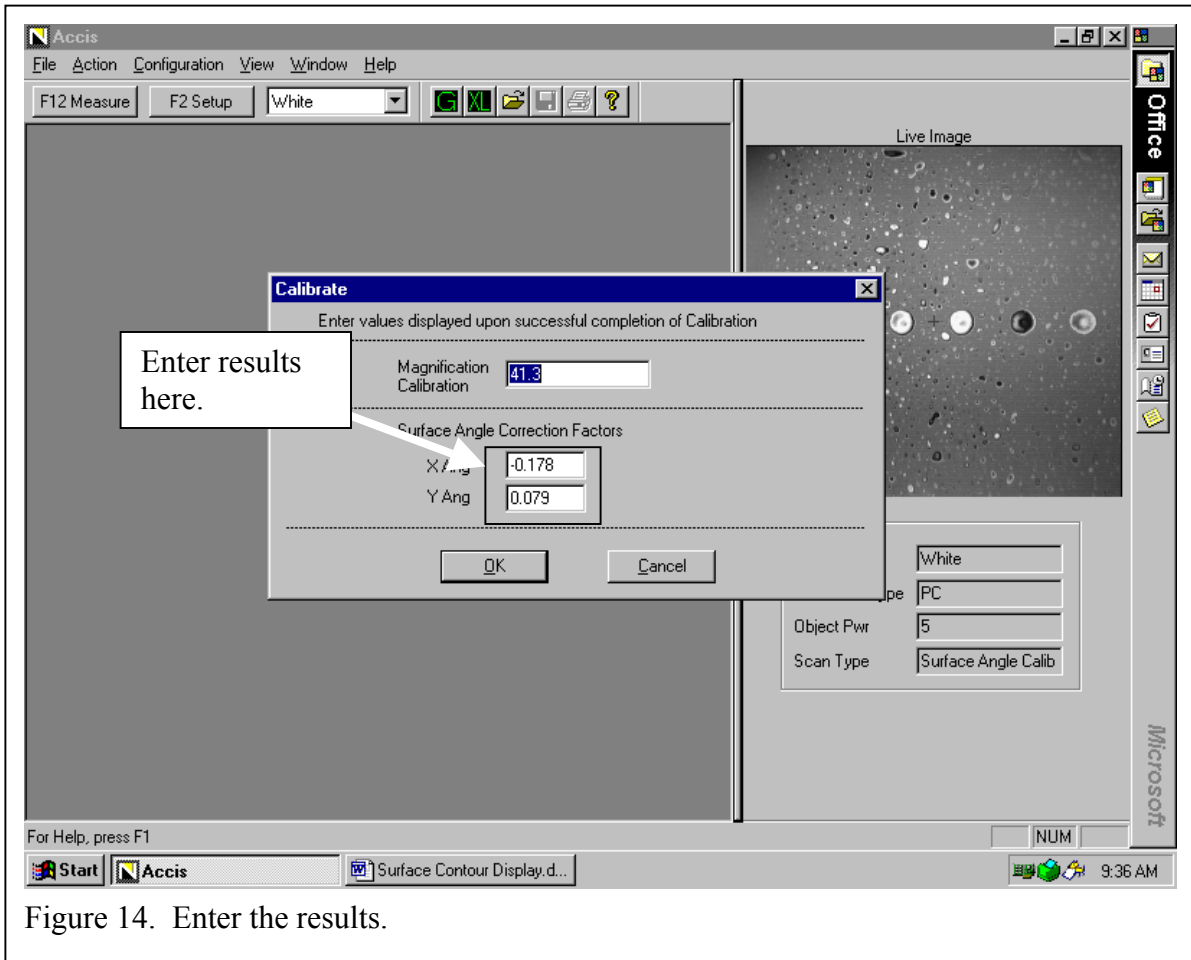

Figure 14. Enter the results.
14. Enter the results. On the Menu Bar press “File” and “Close”. Press “Action” and “Autocal”. A screen like Figure 14 is displayed. In the “Calibrate” window, enter the values for the Surface Angle Correction Factors that were just determined. See Step 13. For example, enter X Angle Correction Factor = -0.010 and Y Angle Correction Factor = -0.061 over the previous values of -0.178 and 0.079, shown in Figure 14. Press “OK”.